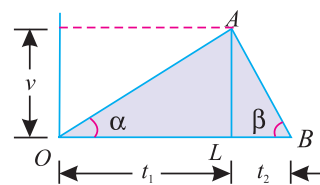

Fig. 17.6.
**Solution.** Let  $OAB$  be the velocity-time graph, in which the ordinate  $AL$  represents the maximum velocity as shown in Fig. 17.6.